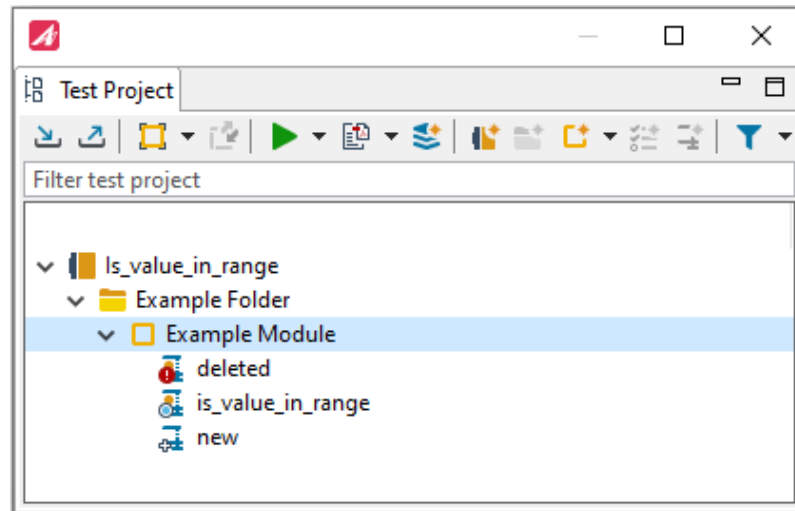

Figure 5.50: Changed and new test objects of is_value_in_range
- In the Test Project view you can see now three test objects with three different test readiness states (see figure 5.50):